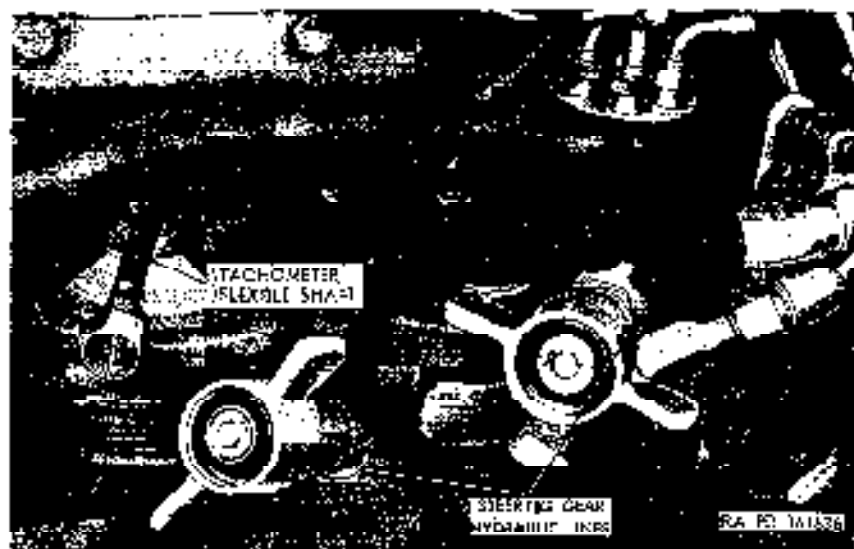

Figure 151. Steering gear hydraulic lines and tachometer drive cable (disconnected) at left side of engine.
(5) *Connect steering gear hydraulic lines*. Connect steering gear hydraulic lines (fig. 151) to inlet and outlet connections at steering gear hydraulic pump (fig. 130), and tighten self-sealing couplings (fig. 133).
(8) *Connect tachometer flexible shaft*. Insert end of tachometer flexible shaft (fig. 151) in tachometer sending unit (fig. 135) at front of distributor drive housing and tighten connector.